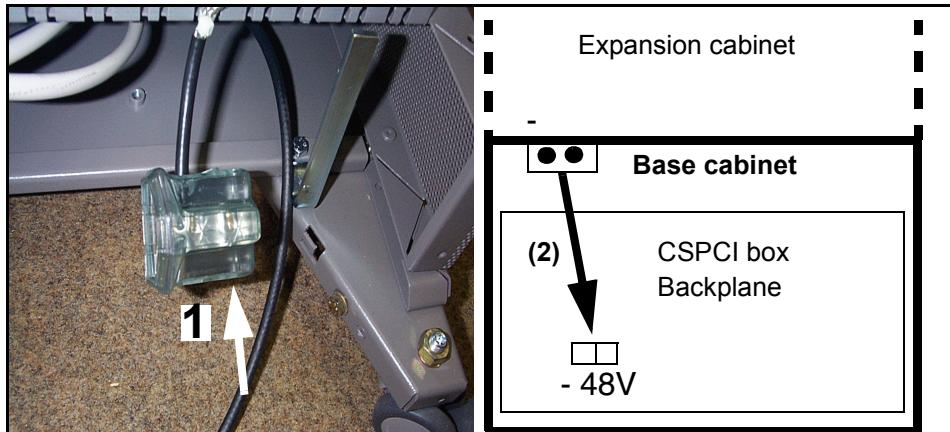

Figure 15 Connecting the external -48V to the DC terminal on the base cabinet
Connect the BULK circuit breaker cable to the DC connector on the CSPCI box (see Figure 15) and then create a daisy-chain connection to the X12 connectors on the expansion cabinets.
1. Connect the -48V cable from the external battery to the DC terminal (1) on the base cabinet (see Figure 15).
2. Route the -48V from the -48V fuse module to the CSPCI backplane (2).